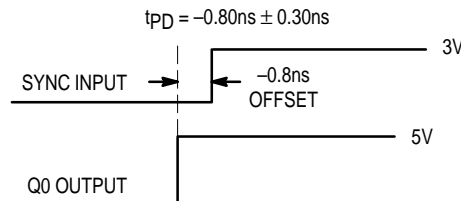

Figure 2. Depiction of the Fixed SYNC to Q0 Offset (t_{PD}) Which Is Present When a 1MΩ Resistor Is Tied to V_{CC} or Ground
- A 1MΩ resistor tied to either Analog V_{CC} or Analog GND, as shown in Figure 2, is required to ensure no jitter is present on the MC88916 outputs. This technique causes a phase offset between the SYNC input and the Q0 output, measured at the pins. The t_{PD} spec describes how this offset varies with process, temperature, and voltage. The specs were arrived at by measuring the phase relationship for the 14 lots described in note 1 while the part was in phase-locked operation. The actual measurements were made with a 10MHz SYNC input (1.0ns edge rate from 0.8V to 2.0V). The phase measurements were made at 1.5V. See Figure 2 for a graphical description.